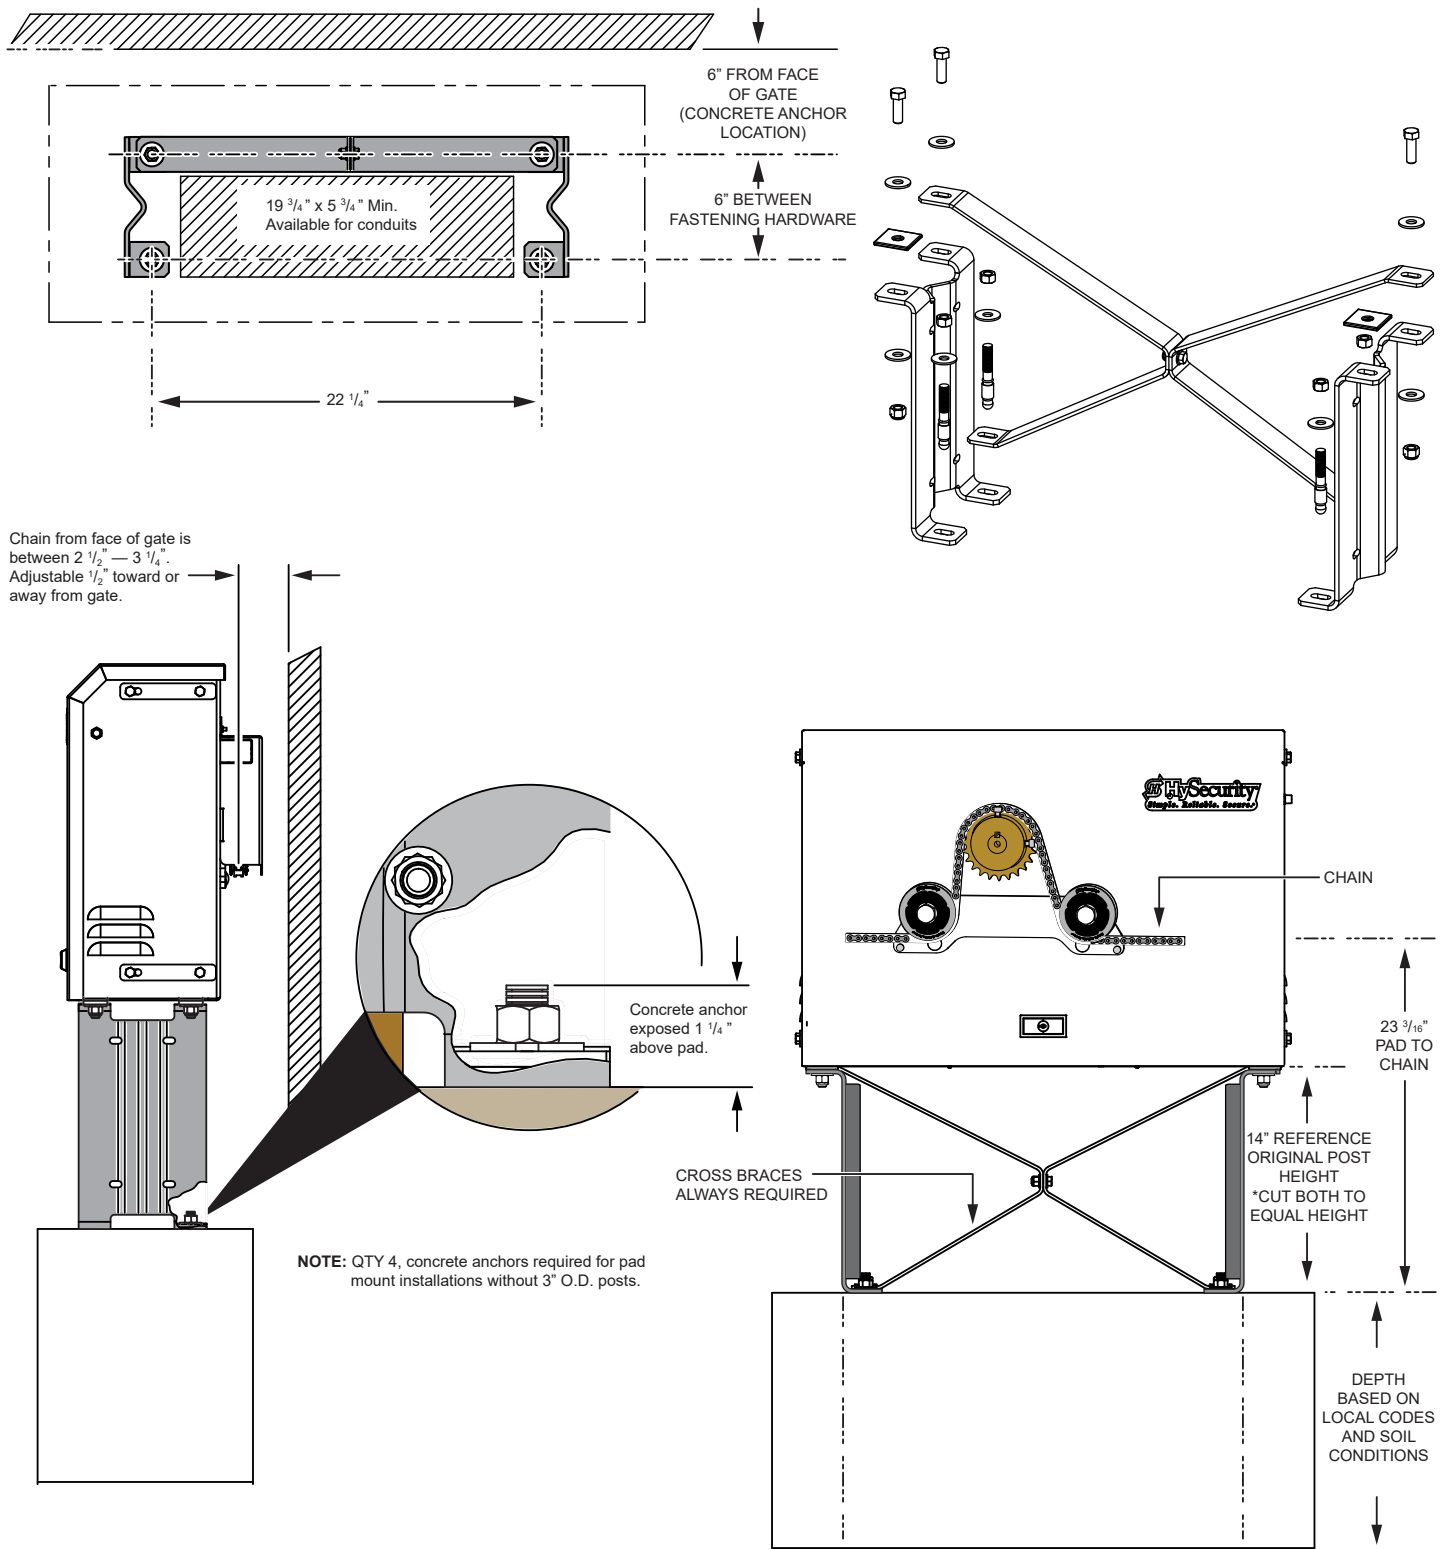
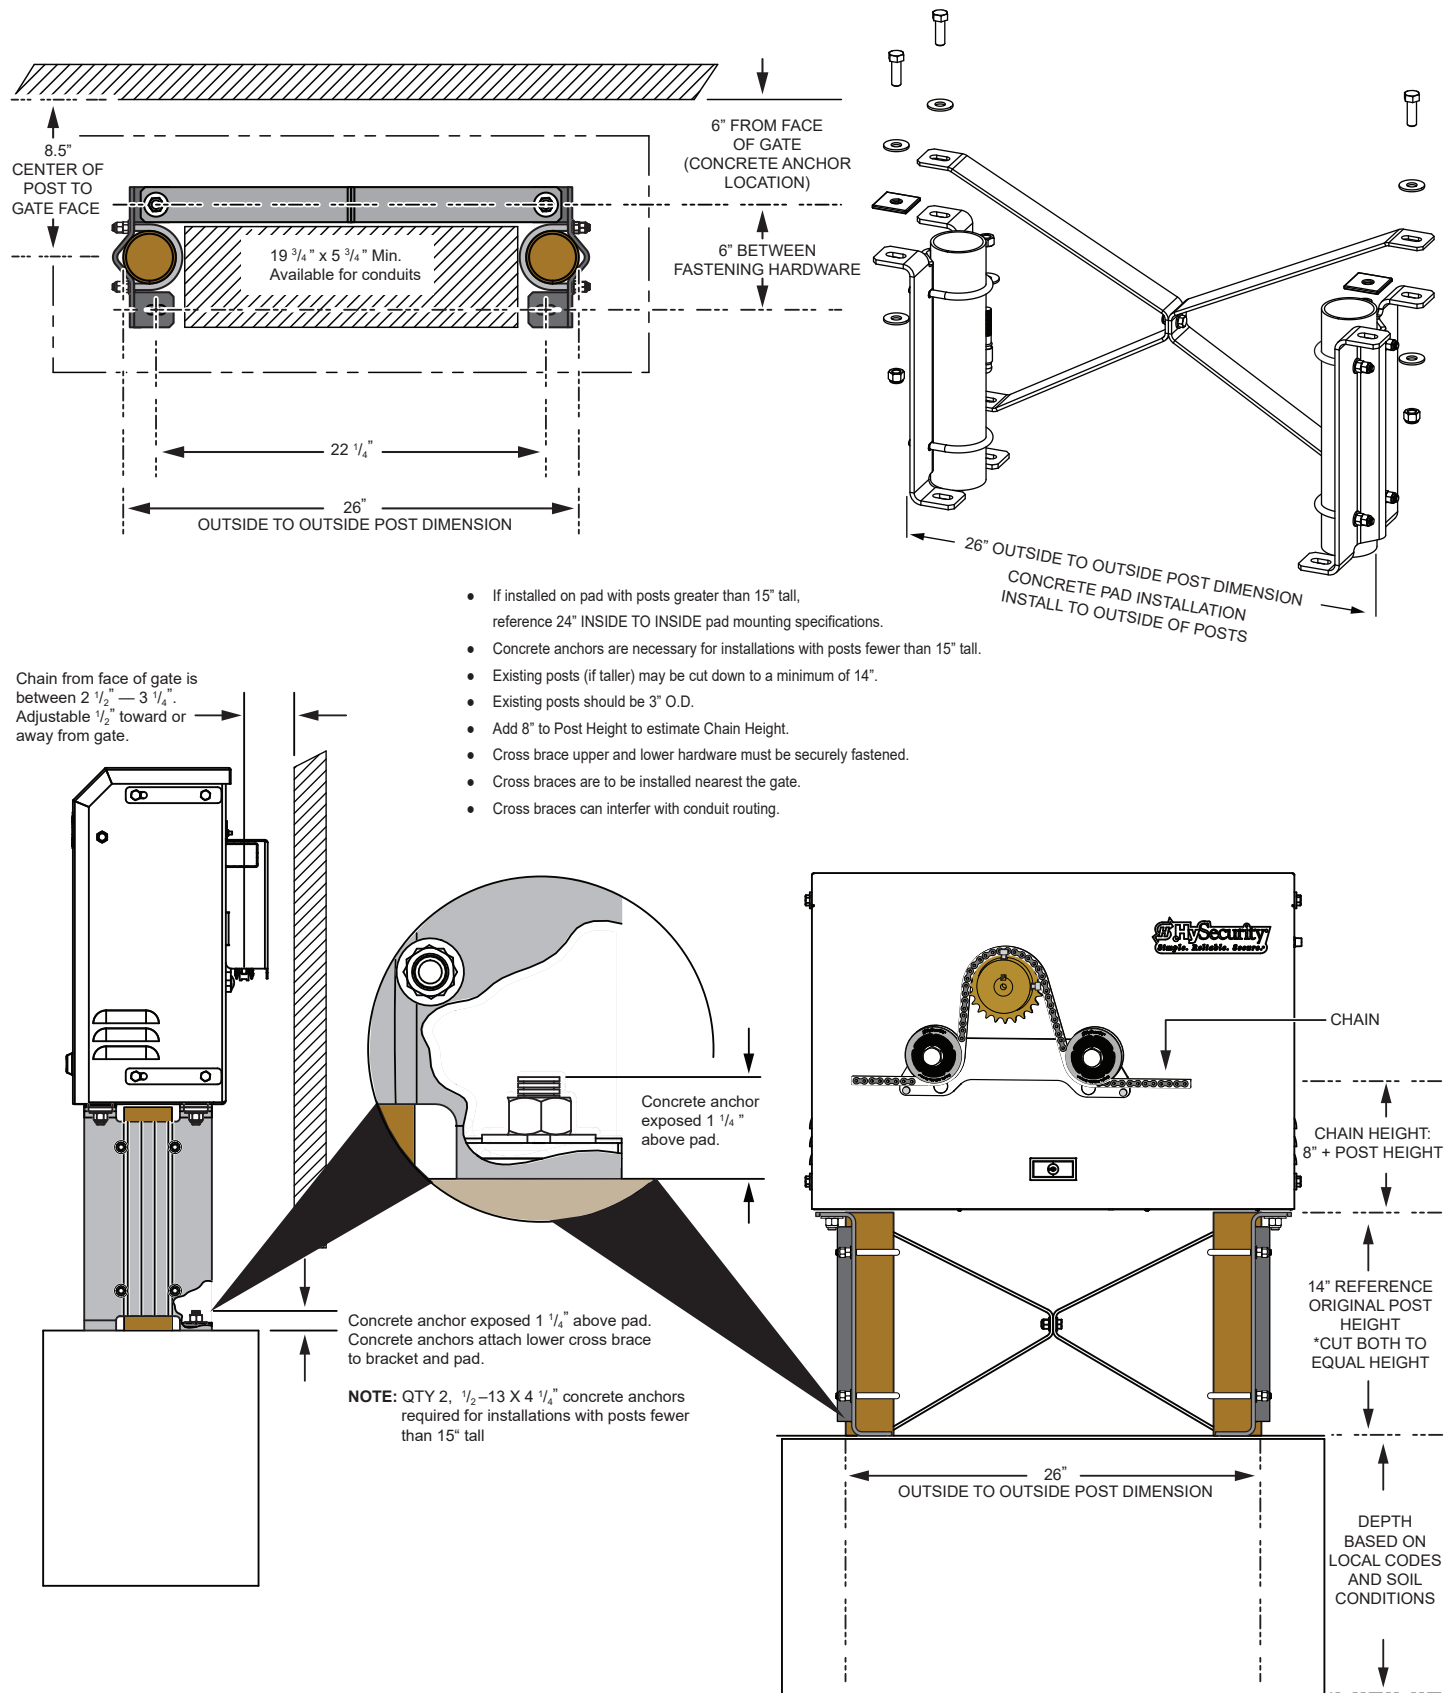
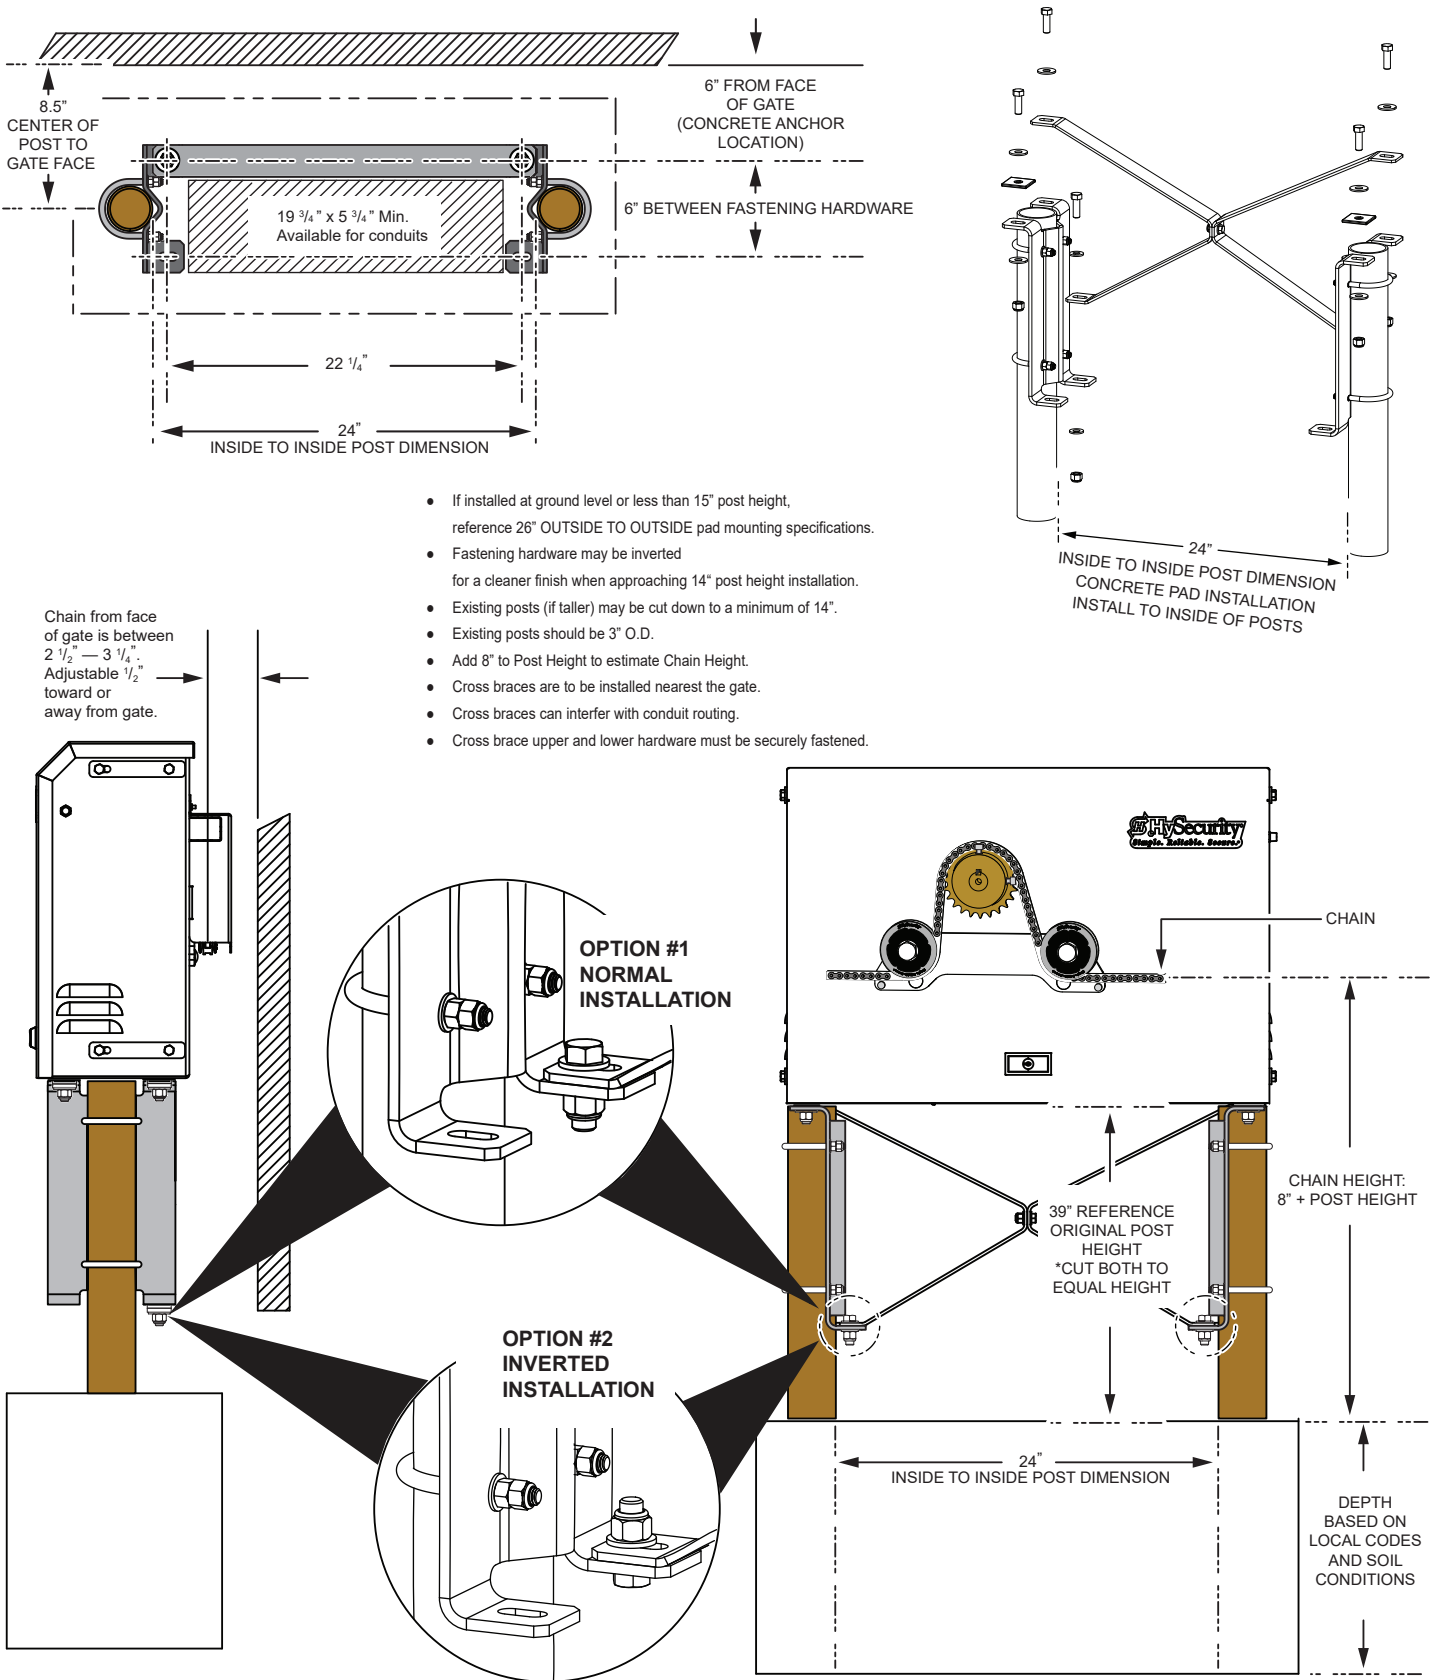

Figure 16. Pad Mounting Installation Specifications and Dimensions
Figure 17. Pad/Post Mounting Installation Specifications and Dimensions
Figure 18. Post Mounting Installation Specifications and Dimensions
5. View "Figure 16. Pad Mounting Installation Specifications and Dimensions", "Figure 17. Pad/Post Mounting Installation Specifications and Dimensions", and "Figure 18. Post Mounting Installation Specifications and Dimensions" for important installation dimensions.